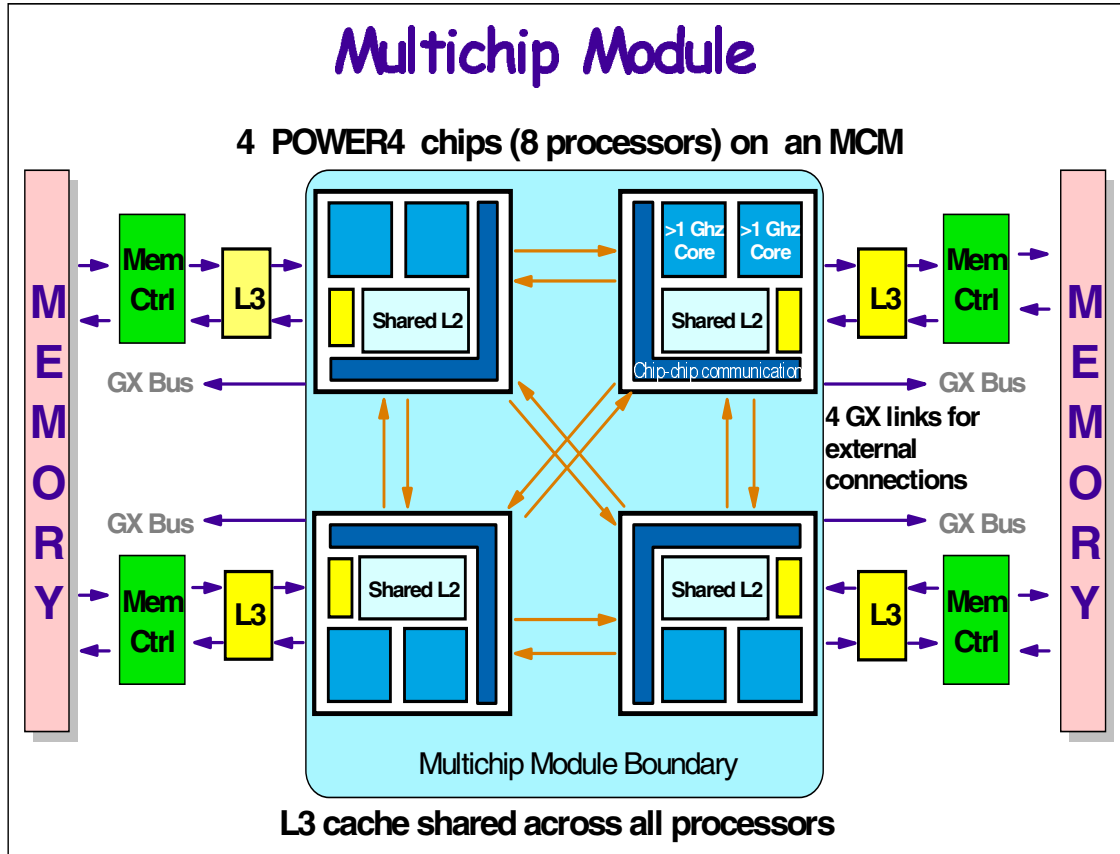

Figure 3-3 Logical view of MCM and memory
Figure 3-3 on page 53 illustrates the relationship between MCMs and memory subsystems from a logical point of view.
- ▶ If an MCM has two memory cards of the same size installed, memory is interleaved in a round-robin fashion across the four memory controllers with 512-byte granularity. Referring to Figure 3-3, memory is interleaved in the following way:
- ▶ If an MCM has one memory card attached (for example, in Figure 3-3 on page 53, if the memory card on the left is the only one present), then the memory is interleaved only on the single memory card by the two L3s on the left side of the MCM. The command queues associated with these two L3s must then process twice the traffic they would in the first case for the same application, and this reduces the available bandwidth for the MCM.